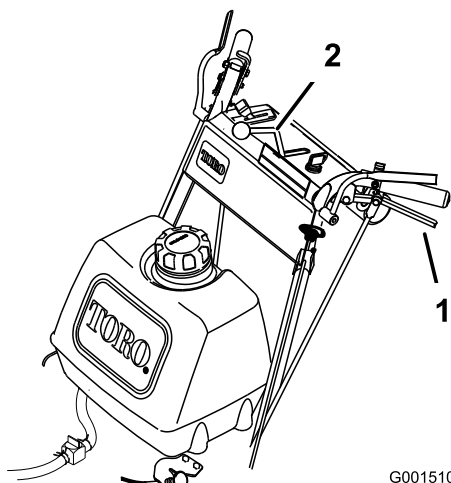

Figure 13
4. Slowly release the drive levers to move forward (Figure 13).
To go straight, release the drive levers equally (Figure 13).
To turn, squeeze the drive lever on the side of the direction which you want to turn (Figure 13).
From neutral, slowly squeeze the drive levers to move rearward (Figure 13).